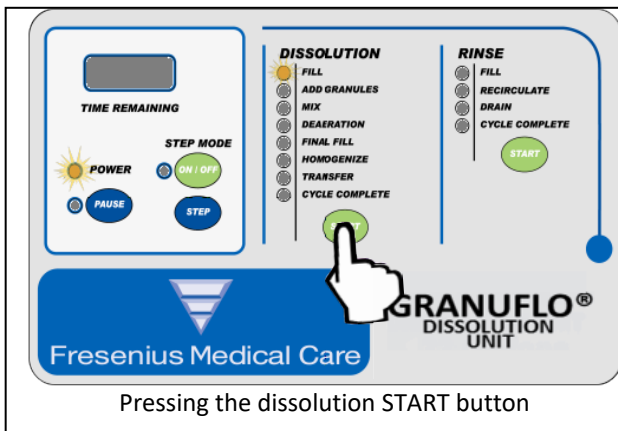

Figure 5
2. Ensure the power switch is ON and water supply valve is in the OPEN position, then place GranuFlo Dissolution Unit II in Dissolution FILL Operation by pressing the Dissolution START button (Figure 5).